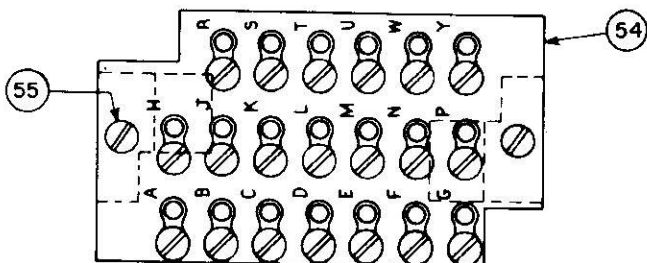

FIGURE 4c. TERMINAL BOARD ASSEMBLY.
4.15 For removal of the terminal board assembly (54) disconnect the remaining leads from the terminal board assembly terminals and remove the two screws (55) from each end of the terminal board assembly (Figure 4c).